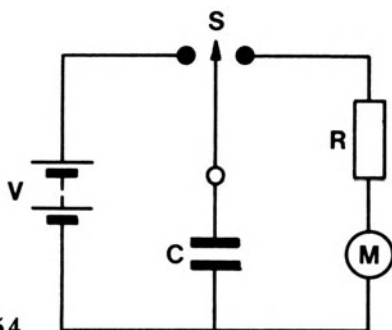

FIG. 3.54
41. In the circuit shown in Fig. 3.54, the switch (S) is used to charge the parallel plate capacitor (C) from the battery (V) and also to discharge it through the microammeter (M) and resistor (R).
1. an increase in the e.m.f. of the battery V with the circuit as in Fig. 3.54 would increase the deflection of M.
2. an increase in the separation of the plates of the capacitor C with the circuit as in Fig. 3.54 would increase the deflection of M.